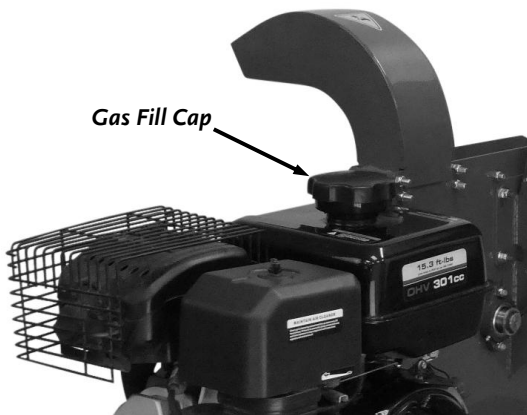

Figure 11
1. Remove the Gas Fill Cap and fill the Gas Tank with fresh, unleaded gas (with a minimum of 85 Octane) to approximately 1" to 1-1/2" below the top of the fill neck to allow for fuel expansion (Figure 11). Be careful not to overfill and reinstall the Gas Fill Cap before starting the engine. See your Engine Owner's Manual for more detailed information.